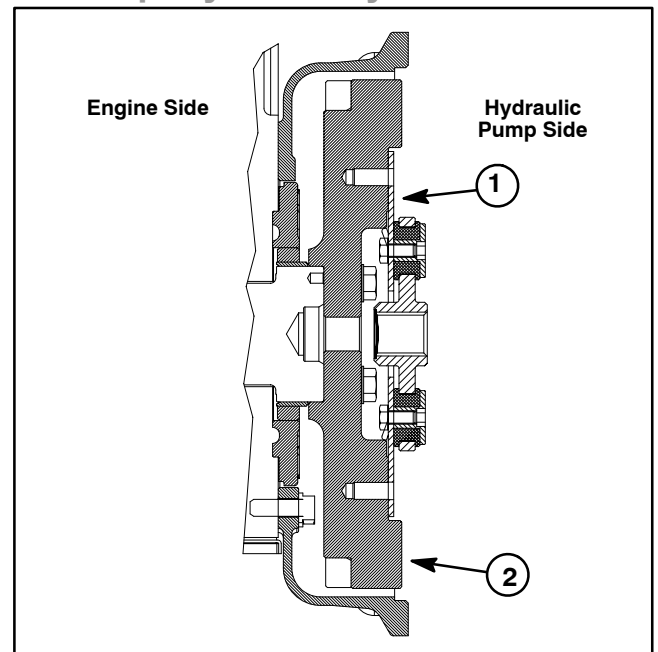

Figure 16
1. Position spring coupler to engine flywheel and align mounting holes. Make sure that coupling hub is away from engine flywheel (Fig. 16).
2. Apply Loctite #242 (or equivalent) to threads of cap screws (item 3). Secure coupler to flywheel with six (6) cap screws and washers. Torque cap screws in a crossing pattern from **29 to 33 ft-lb (40 to 44 N-m)**.
3. Position flywheel plate to engine and engine mounts. Secure flywheel plate and mounts with cap screws (items 5 and 7) and washers using a crossing pattern tightening procedure. Torque cap screws in a crossing pattern from **28 to 32 ft-lb (38 to 43 N-m)**.